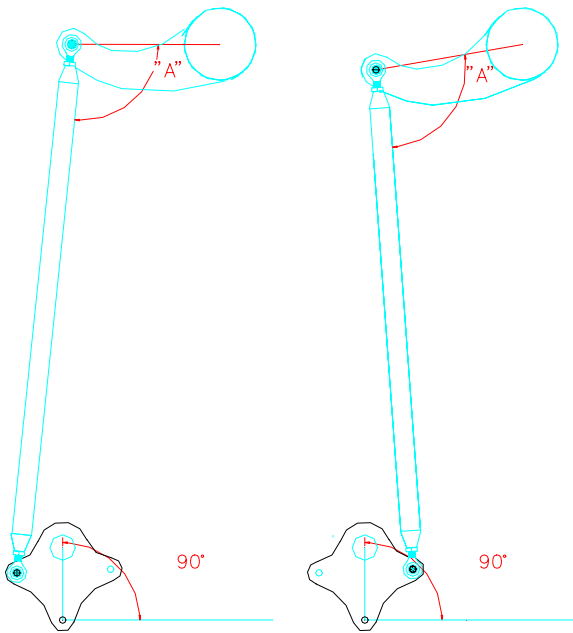

Figure 15.9.4
- 3) Re-adjust the push-pull tube so that the angle at the left horn is the same as the right horn. Figure 15.9.4.